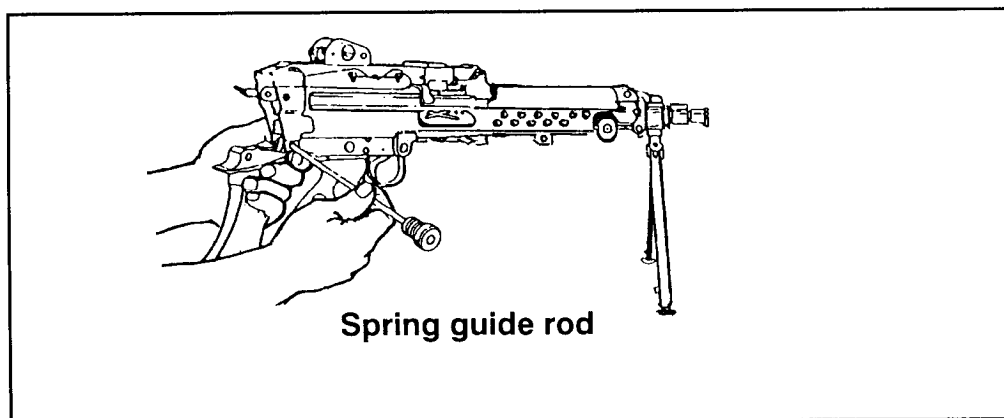

Figure 2-9. Removing the buttstock and buffer assembly.
d. **Removing the Buttstock and Buffer Assembly Group.** To remove the buttstock and buffer assembly (Figure 2-9), use a cartridge or the spring guide rod to push the lowermost retaining pin on the rear of the receiver to the left. It is a captured pin; it is not removed. Remove the buttstock and shoulder assembly by pulling it rearward, while supporting the trigger mechanism.